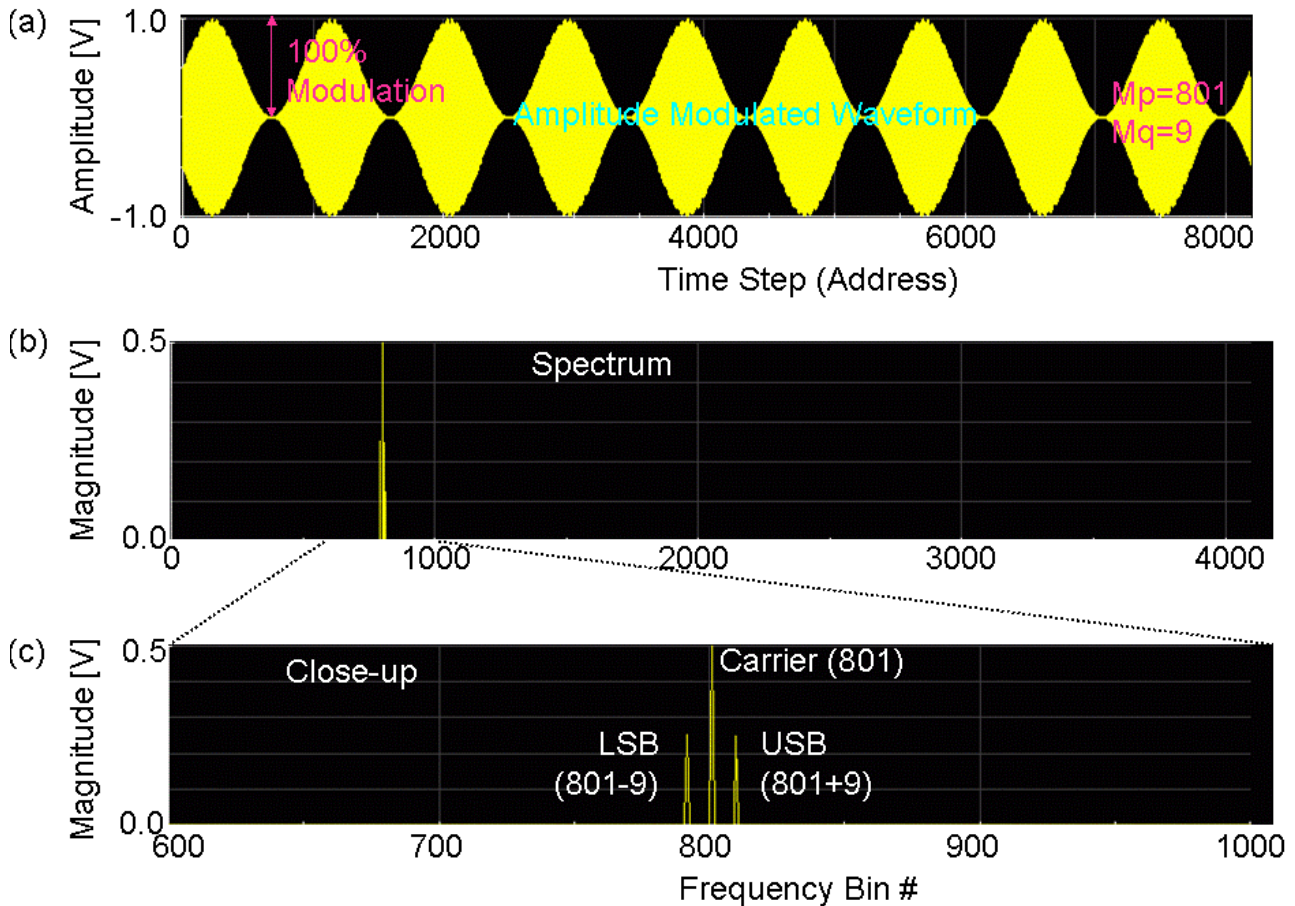
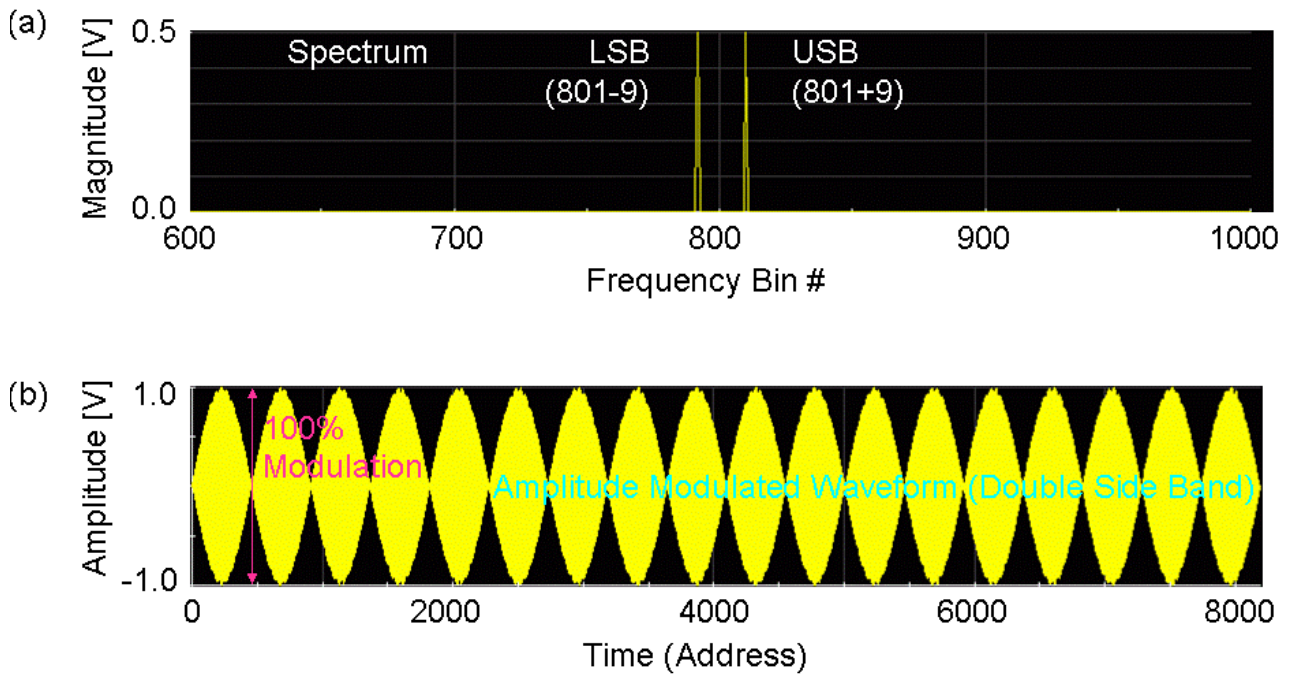
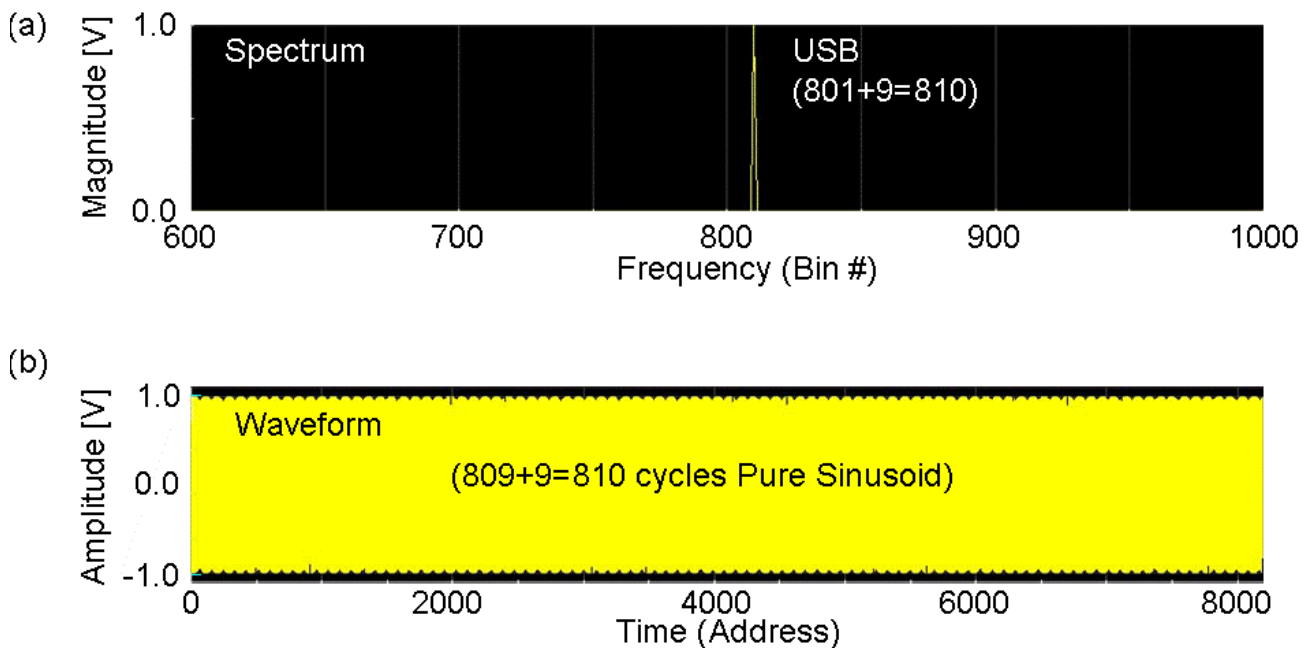

Figure 2: Spectrum of AM Signal
Figure 4 DSB Spectrum and Waveform
Figure 5 SSB Spectrum and Waveform
By performing FFT to the AM signal, its frequency spectrum is shown in Figures 2 (b) and its close-up (c). AM signal is constructed by the carrier, lower side band (LSB) and upper side band (USB). The bin number of LSB and USB is the carrier's bin number +/- modulation signal cycles in the UWP.
The third line of Equation (5) shows the carrier, USB and LSB components so that it supports the frequency spectrum in Figure 2(c).
Looking at Equation (5) and Figure 2(a), the carrier does not convey any information so that AM system could omit to send the carrier component. In this case the name of "carrier" has nonsense. When both LSB and USB are used, it is called DSB or double sideband AM. When either LSB or USB is used, it is called SSB or single sideband AM.
List 3 is the code example of DSB. Figure 4 is the result that the program List 3 generates. As you can see, the amplitude of LSB and USB is doubled compared to Figure 2(c). This is because the carrier is not included in the signal. So DSB is more efficient than regular AM. SSB is more efficient than DSB. If you remove Lines 14 and 15 in List 3, you can make the amplitude 1.0 at Line 12. Then the SSB spectrum and waveform look as Figure 5. This is just a single tone of (Np+Nq) cycles. For demodulating DSB and SSB signals, you have to provide the carrier signal by yourself.